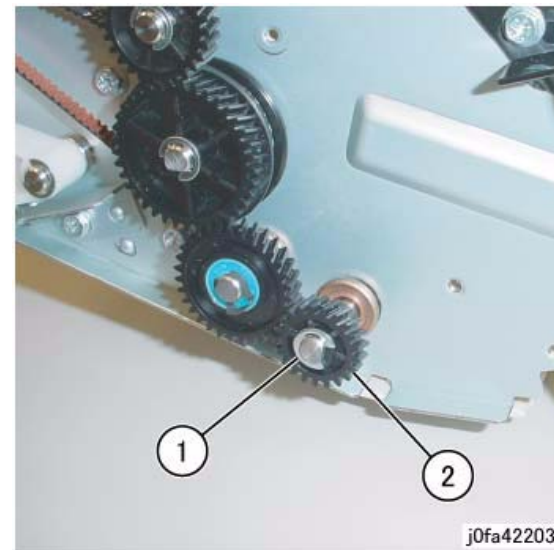

Figure 3 Removing the Gear
7. Remove the Rear Gear (Figure 3):